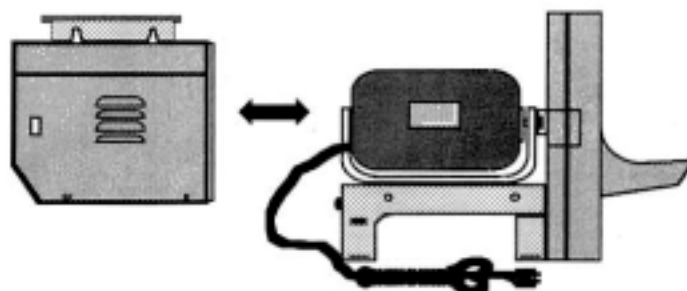

Figure 2
- b. Remove four screws which secure motor cover onto motor base utilizing a spade type screwdriver. Move cover to the rear, slightly (see Figure 2).